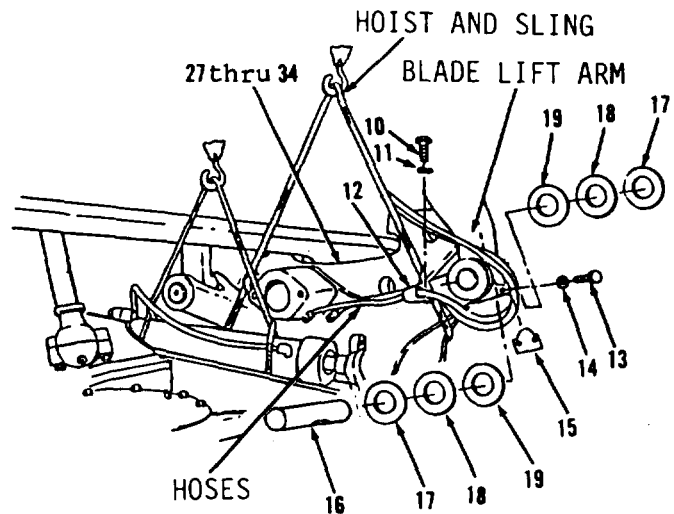

Figure 12-7.
3. Remove bolt (10), lockwasher (11) and clip (12) from items 27 thru 34 as an assembly (Figure 12-7) and move hoses to one side.